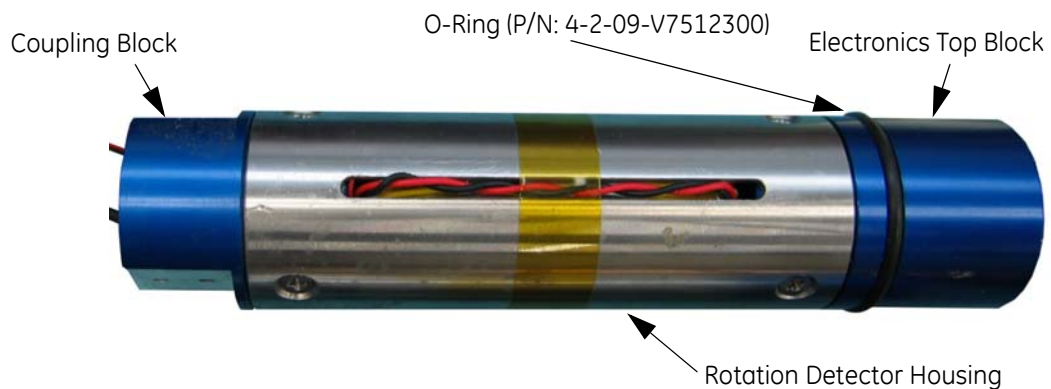

Figure 5-1 Electronics Upper Assembly
- 1 To make sure the Relative Bearing Device is returned to its correct orientation upon reassembly, mark one of the HS Rail Caps (item 7) and the Coupling Block (item 5).
- 2 Unsolder (SN100C) four wires connecting the Relative Bearing Device (item 1) to PCB413884 (item 20), refer to WD-9-4-03-34E3501.
- 3 Unplug connector board (P/N: 9-4-01-34008001) from the Power Supply PCB (item 14).
- 4 Remove four Screws (item 11) securing the top of the HS Rail Caps (item 7) to the Coupling Block (item 5).
- 5 Remove the electronics upper assembly containing the Relative Bearing Device (item 1), see Figure 5-1.